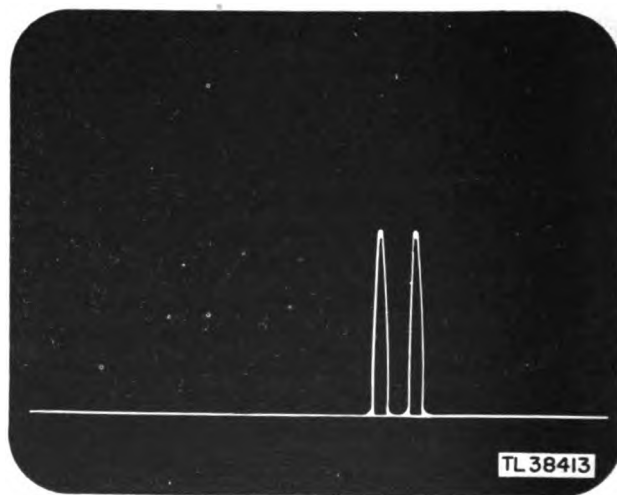

Figure 5. Range determination (100,000 yd.).
c. On the cathode-ray tube of Radio Equipment RC-145-A, the spot travels from left to right at such a high velocity and so frequently that its course appears as a line. The received signal appears as a vertical deflection, or pip, above the line. At long ranges, the range of the target is estimated by observing the distance along the line at which the signal appears (fig. 5). At short ranges the *radar set* measures the